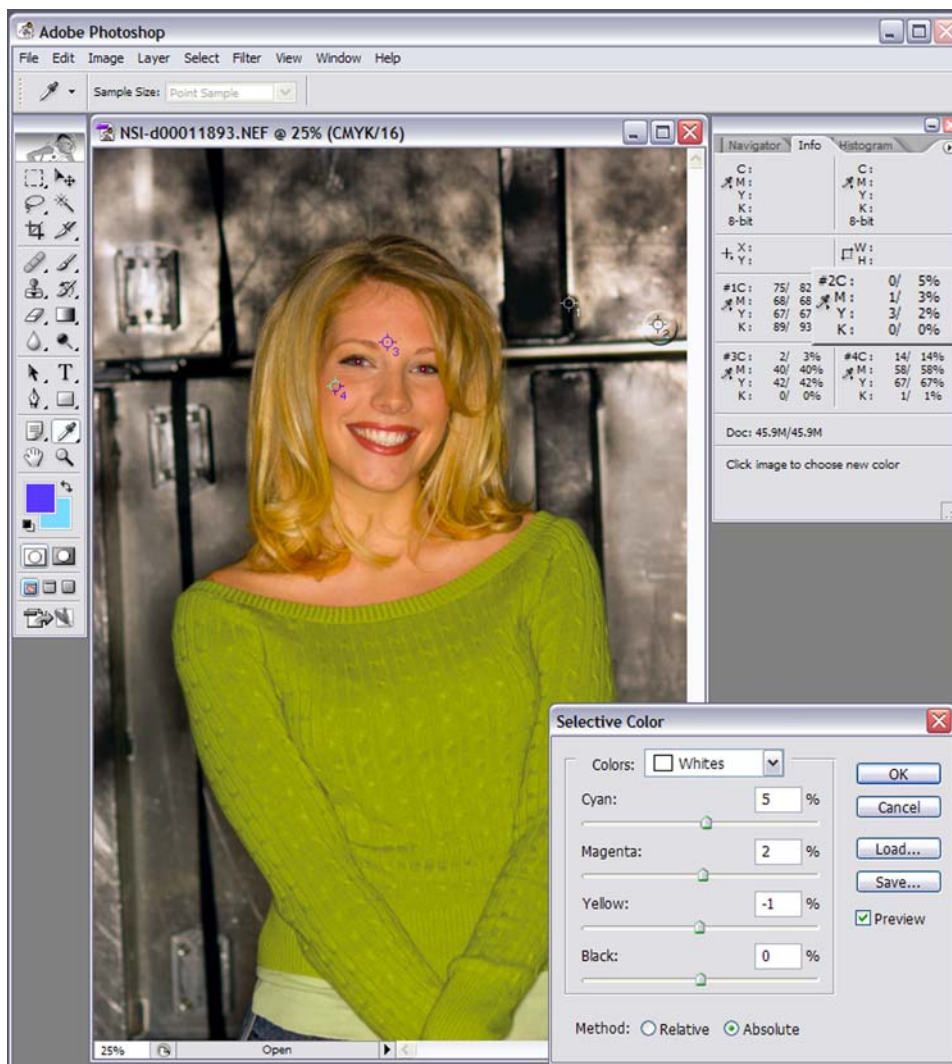

FIGURE 1-4 Color Sample #2 (white pixel) optimized for Whites
1. Select Whites from the Colors dropdown list. Now we're adjusting only the whites in the image. Our goal is to create a good neutral white when printed. Watch the values of color sample #2 (our white pixel) change as we make the following adjustments (Figure 1-4).
2. To get a clean neutral white, your goal is to make the C, M, Y, and K values of sample #2 equal to 5, 3, 2, and 0 respectively. As you can see in Figure 1-4, this required us to set the Cyan, Magenta, Yellow, and Black sliders to 5, 2, -1, and 0, respectively.
In Figure 1-4, sample #3 shows M=40 and Y=42. That's a 2-unit difference: not bad. Sample #4 shows M=58 and Y=67. That's a 9-unit difference: even better. So while sample #3 is not within our “ideal” range of 5-10 points difference ... it's close enough for us. Adjusting Magenta and Yellow to make sample #3 “ideal” would throw sample #4 off, so we'll leave well enough alone.